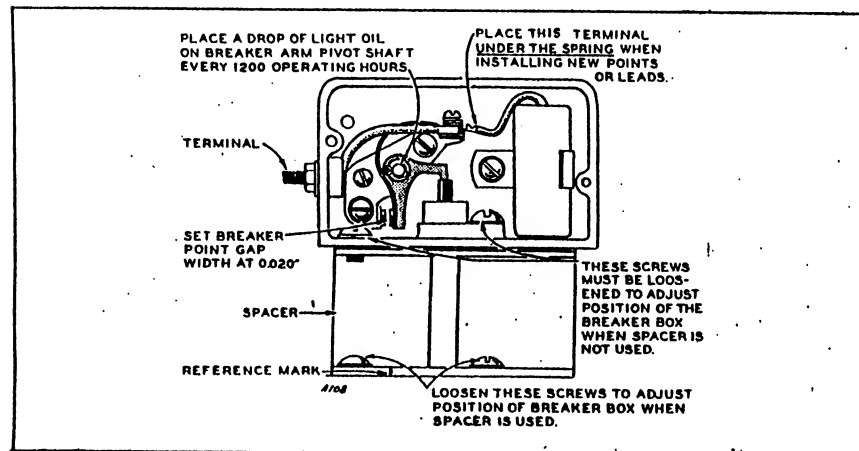

FIG. 21-SERVICING THE BREAKER POINTS
**BREAKER ARM PIVOT SHAFT.** - Note Fig. 21. Place a drop of lubricating oil on the breaker arm pivot shaft to prevent arm from sticking.